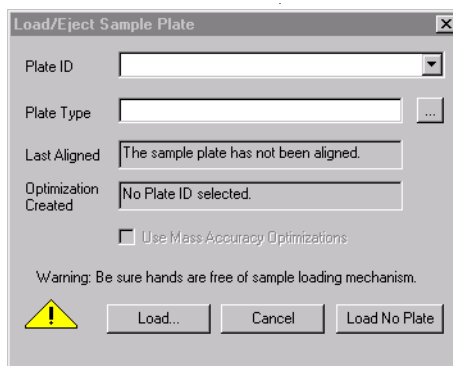

Figure 3-3 Load/Eject Sample Plate Dialog Box
- From the Sample Plate menu, select **Load** to retract the sample plate and insert it into the main source chamber. The Load/Eject Sample Plate dialog box (Figure 3-3) is displayed.